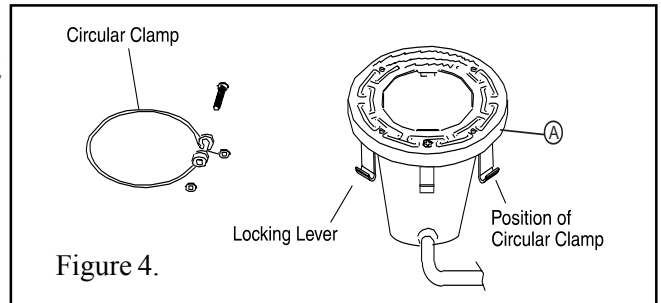

Figure 4.
4. With the bent ends of the circular uni-tension clamp pointing down spread the clamp and place it in the "U" recesses of the locking levers. Be sure the bent ends of the clamp are located between the pair of locking levers as shown in Figure 4, location A. Check to see that the clamp is properly engaged with all of the levers.